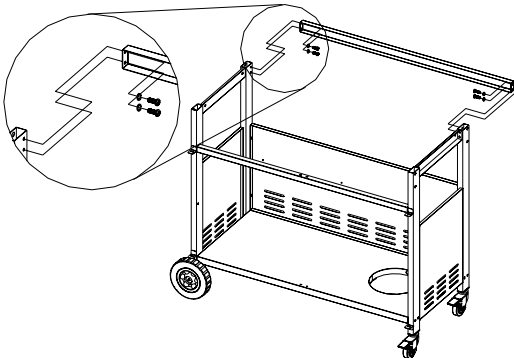

Figure 6
2. Attach the rear cart frame beam to grill cart using (4) $\frac{5}{32} \times \frac{2}{5}$ " Phillips head screws and (4) $\frac{5}{32}$ " lock washers. (Fig.6)